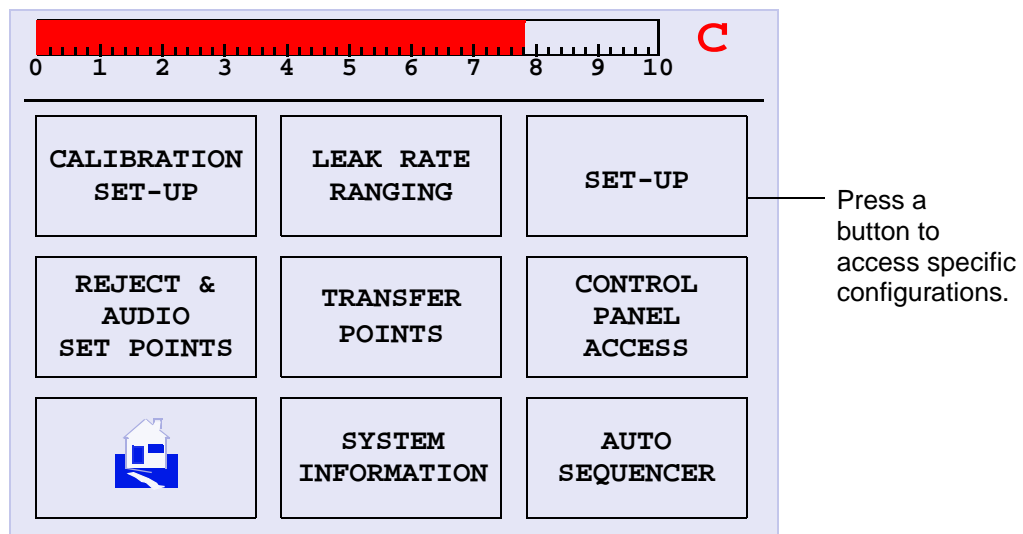

Figure 2-7 Menu Screen
- Press **Menus** on the Home screen. The Menu screen appears (Figure 2-7). Use the arrow to navigate to the previous screen.